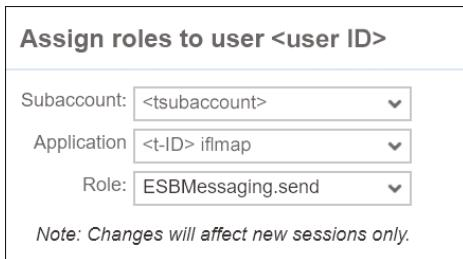

Figure 2.16 Assigning ESBMessaging.send to the Runtime Node in the SAP Cloud Platform Cockpit
5. In the next screen, for the **Application** field, select the entry from the dropdown list that ends with **iflmap** (Figure 2.16).